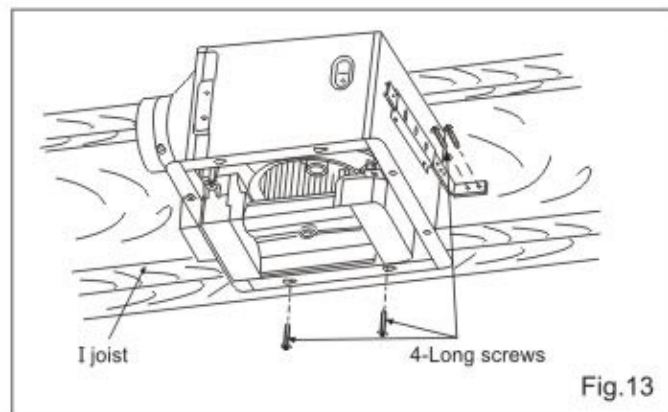

Fig.13
3. Connect the ventilating fan to the I-joist. (Fig.13)